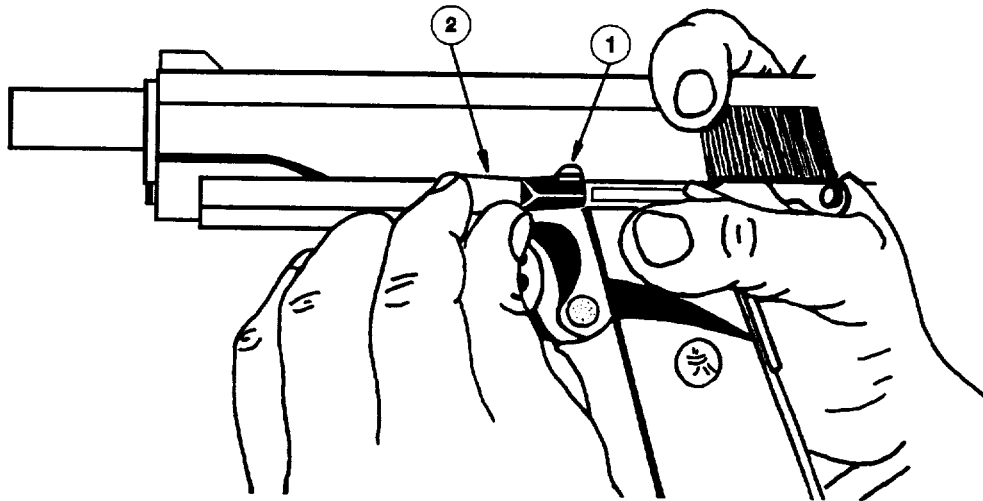

Figure 3-4. Aligning The Disassembly Notch
- d. Move the disassembly notch (1), Figure 3-4, in the slide assembly to a position above the slide stop (2) on the receiver assembly.